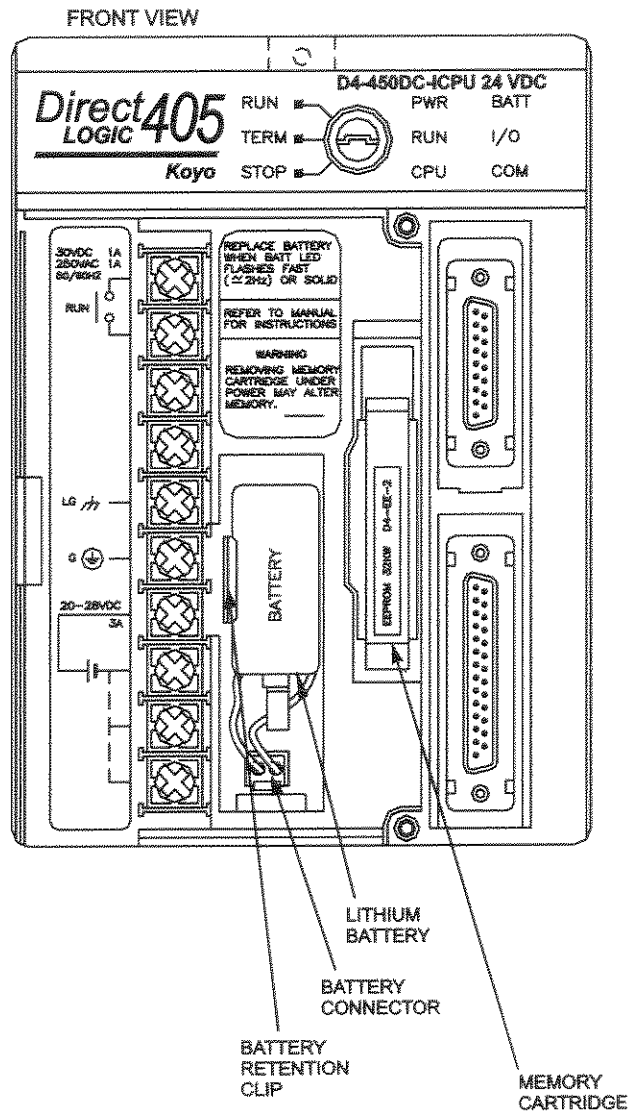

Figure 4-1 PLC
The battery required for data backup in the event of a power failure will require replacement when the **BAT** Led on the front of the Controller is red. Follow the procedure below to replace the battery. Refer to Figure 4-1 for location.
1. Locate memory cartridge extraction lever (See Figure 4-1) and gently pull the top of the lever down and towards you.